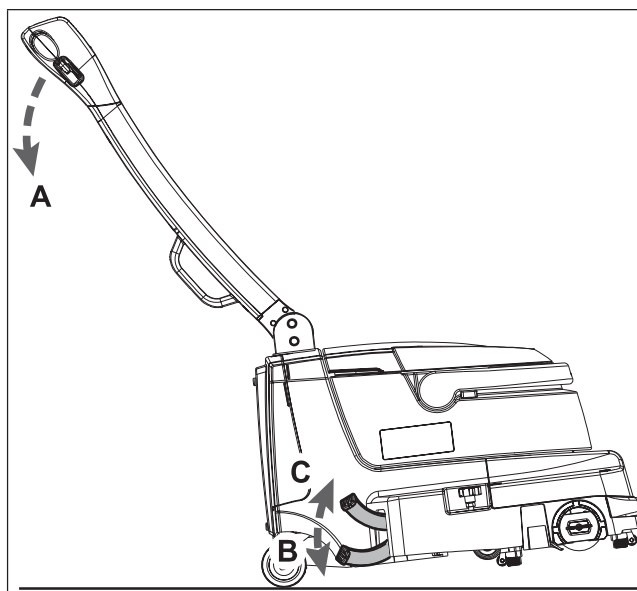

Figure 1
In order to facilitate the use of the park pedal (10), slightly lift the front section of the machine by gaining leverage with your hands on the handlebar (A, Fig. 1).
1. Putting your hands on the handlebar (A), slightly lift the front section of the machine, then press the pedal (B, Fig. 1).